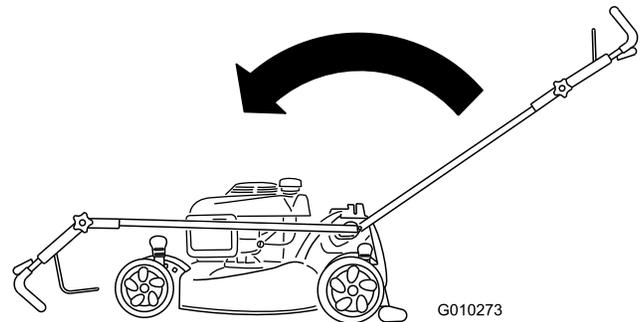

Figure 38
2. Move the handle all the way forward and loosen the upper handle knob (Figure 38).